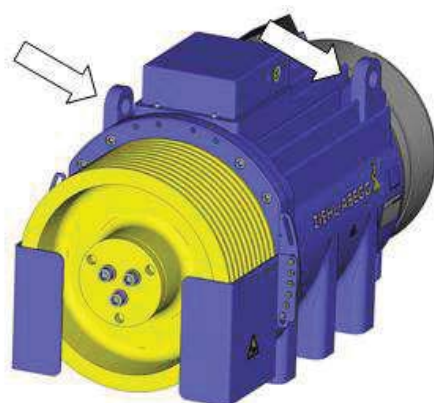

Figure 3-3-2-01 - Position of attachment points
- ▷ Lift only at the existing attachment points (see Figure 3-3-2-01).